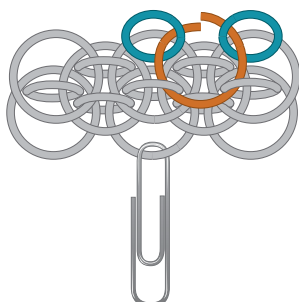

FIG. 6
6. Thread 2 small (blue) jump rings onto the large jump ring just added. Arrange the small jump rings as shown in **FIG. 6** and close the jump ring (**FIG. 7**).